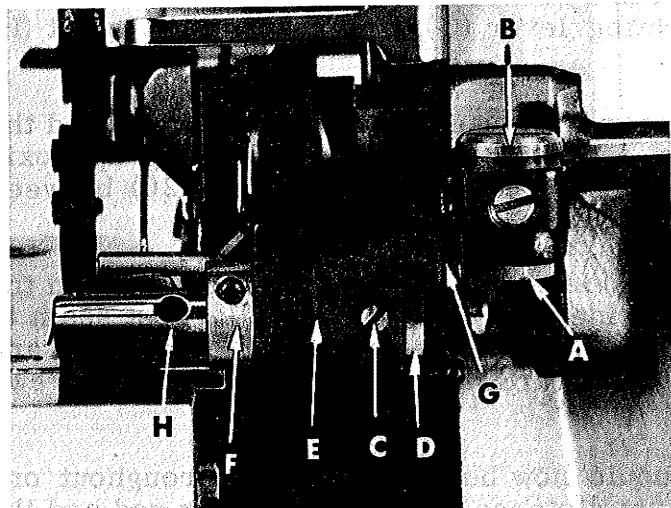
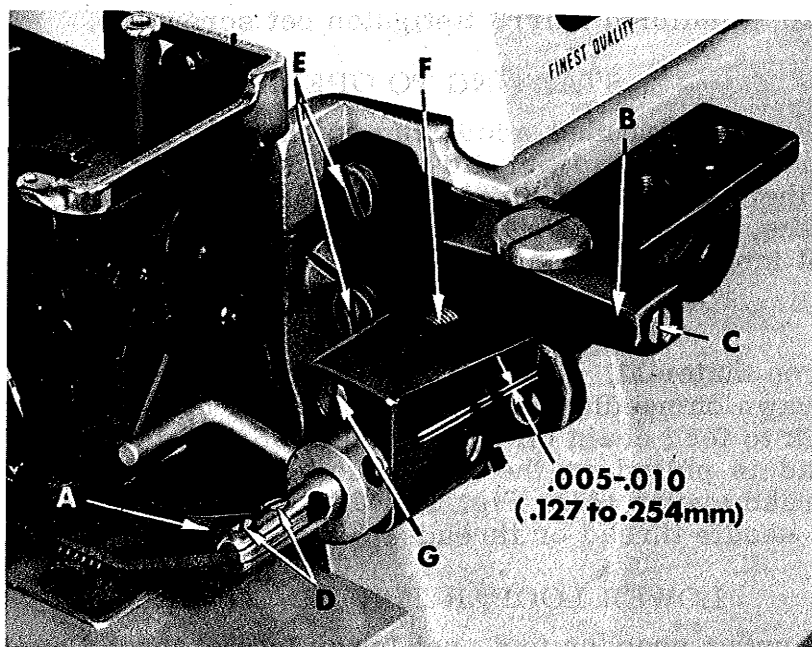

Fig. 19
Fig. 20
Styles 39500 QT, RD, RL, RT, TM and TT are equipped with an auxiliary pressure plate assembly (Fig. 19) which operates in conjunction with the presser foot. Check the operation of this assembly as follows:
1. Swing the pressure plate assembly in and out of its operating position and check to assure that it hinges freely on its pivot. If not, loosen lock nut (A, Fig. 19) and adjust shoulder screw (B) for smooth operation.
2. Loosen set screw (C, Fig. 19) and turn the shaft collar (D) counter-clockwise (viewed from the left side of machine) using the spanner wrench provided, so there is some tension on the tension spring located in the shaft bracket (E) and the pressure plate (A, Fig. 20) is forced down slightly.
3. Adjust tension spring, located in the mounting bracket (B, Fig. 20) with inner screw, after removing outer screw (C). Spring should be tight enough to allow assembly to snap into place and still allow the mechanism to swing out easily. Lock inner screw with outer screw (C).
4. With the feed dogs down, look horizontally between the pressure plate and the throat plate from the front of the machine to assure that the pressure plate lies flat on the throat plate. If not, loosen the two screws (D, Fig. 20) which hold the pressure plate (A) and adjust flat to the throat plate.
5. Raise or lower the mounting bracket (B, Fig. 20) by loosening screws (E) so that, from the side, the pressure plate is parallel and flat on the throat plate. Retighten screws (E).
6. Adjust screw (F, Fig. 20) so that the front edge of the pressure plate is square to the feed dog teeth. Lock with screw (G).
7. Center pressure plate over the feed dogs by loosening the screws in the actuating collar (F, Fig. 19) and the operating lever (G), and then adjust shaft (H) laterally as required.
8. When retightening operating lever screw make sure that the feed dogs and the pressure plate are down, then tighten operating lever screw leaving approximately .005 to .010 inch (.127 to .254 mm) clearance (See Fig. 20) between operating lever and shaft bracket (E, Fig. 19).
9. With feed dogs up, check from the left side to see if the clearance between the pressure plate and the presser foot is wide enough to allow the largest seam to pass. If not, adjustment can be made by loosening screws (E, Fig. 20) and moving the mounting bracket (B) straight toward the operator. Retighten screws (E). Recheck Step 4.
10. The actuating collar (F, Fig. 19) should now be set so that, throughout one revolution of the machine, the minimum distance between the lifter rod and the presser foot is 1/32 inch (.79 mm). The lifter rod should be set to clear the tip of the presser foot if it is important that the shirring mechanism can be swung away without moving the presser foot away first.
11. Loosen set screw (C, Fig. 19) for final adjustment of pressure plate tension spring. Turn shaft collar (D) with spanner wrench until desired tension is acquired to obtain a uniform shirr. Retighten set screw (C).